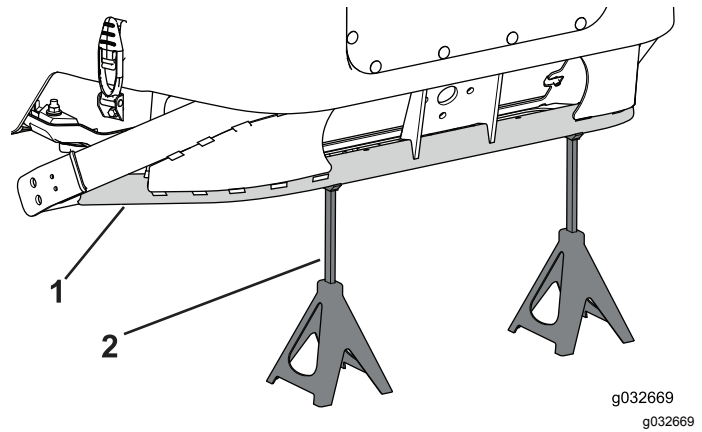

Figure 85
1. Place 2 jack stands underneath the rear of frame to support the machine when you lift the front of the machine (Figure 85)